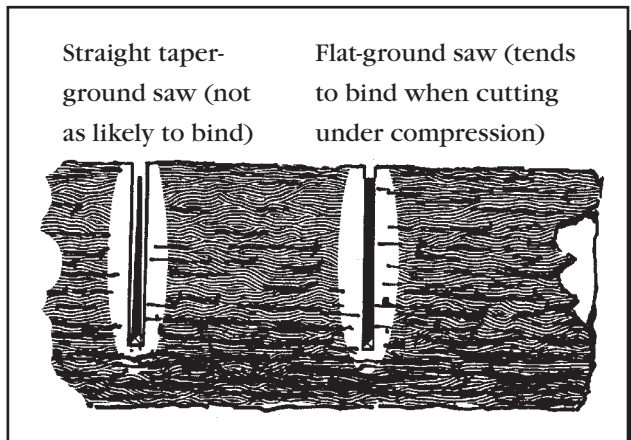

Figure 5-4—Comparison of cuts made by straight taper-ground and flat-ground saws.
**Straight Taper Ground**—Straight taper-ground saws have an advantage over a flat-ground saw because the saw is thinner at the back than at the center (figure 5-4). The back of the saw has more clearance, reducing binding.